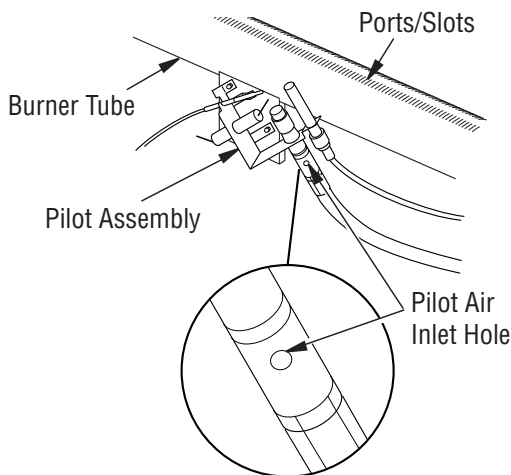

Figure 36 - Pilot Inlet Air Hole
3. Blow air through ports/slots and holes in burner (see **Figure 36**).
Clean pilot assembly also. A yellow tip on pilot flame indicates dust and dirt in pilot assembly. There is a small pilot air inlet hole about 2" from where pilot flame comes out of pilot assembly (see **Figure 36**). With unit off, lightly blow air through air inlet hole. You may blow through a drinking straw if compressed air is not available.